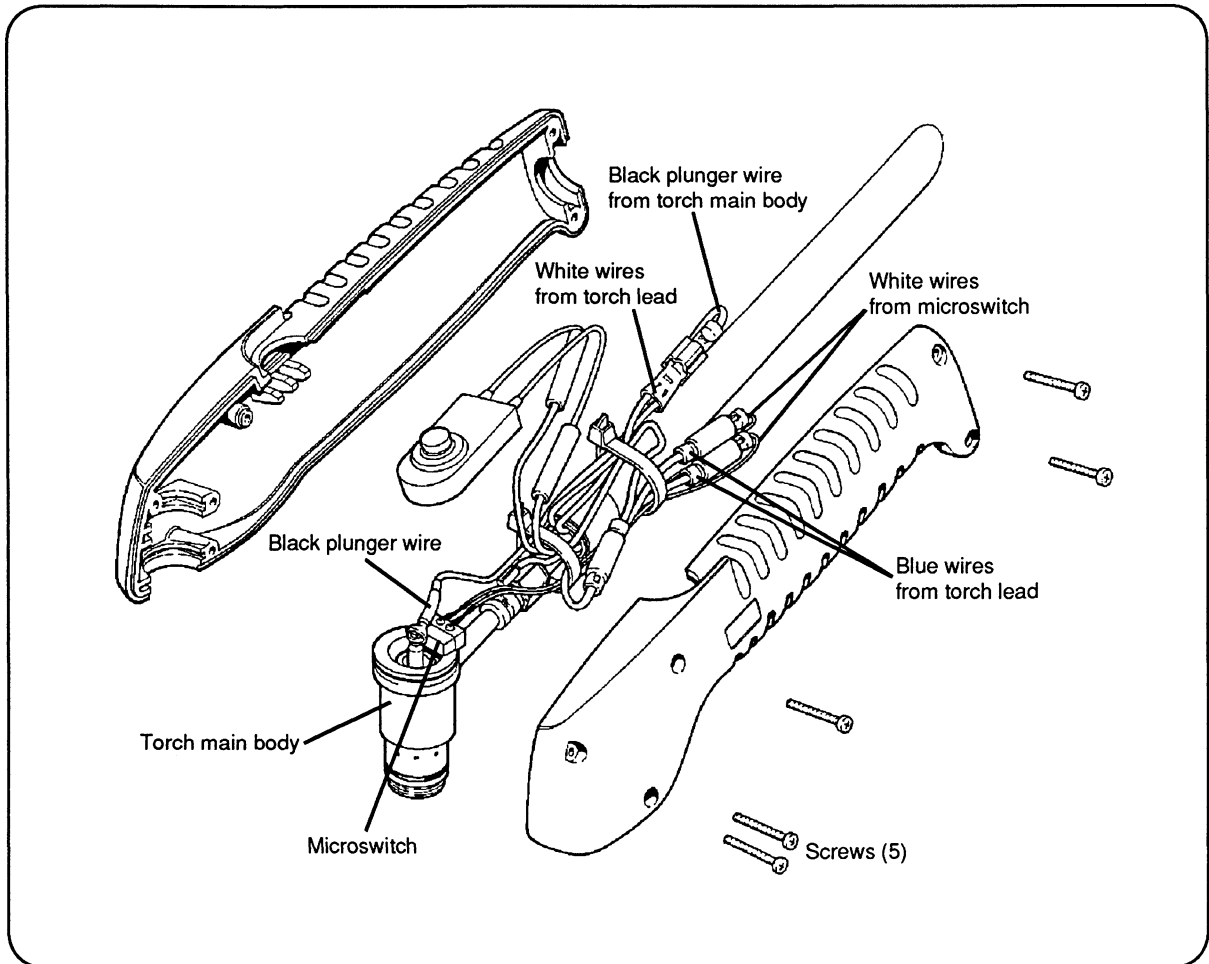

Figure 1 PAC120 Torch Exploded View
2. Remove the five (5) screws which secure the torch handle halves together and separate. Remove the torch main body and torch switch (see Figure 1).